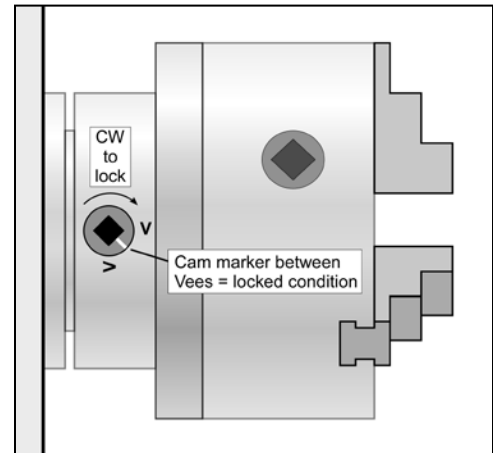

Figure 3-8 Cam in locked condition
4. Check that each of the cam markers lies between 3 and 6 o'clock, between the two Vees stamped on the spindle, Figure 3-8.